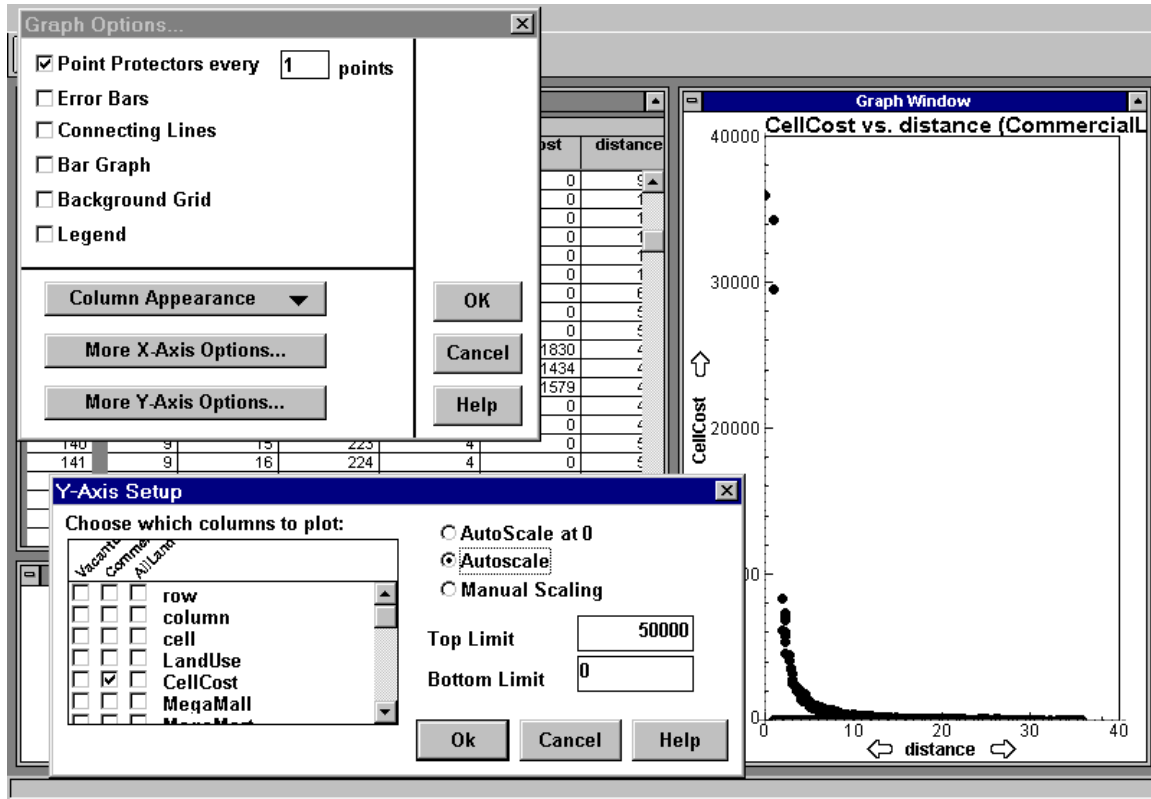

Figure 9: Selecting the CellCost for the Commercial Land Use
- Obtain a graph of cost as a function of distance for commercial cells as shown in Figure 9. As you did in part (b), you can create this graph by double clicking on the graph itself, choosing “More Y Axis Options”, and changing your selection to *cellcost* from the *commercial* data set. (Be sure to deselect the *cellcost* variable from the *vacant* data set).